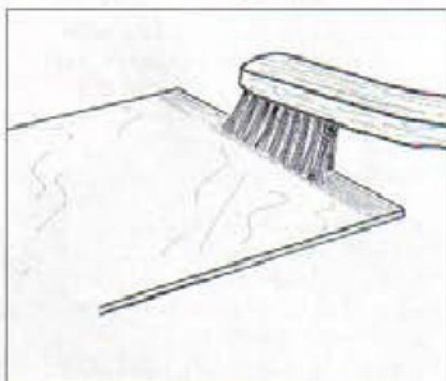

Fig. 1. Clean the area to be tinned with a stainless-steel wire brush.
Knurling tools for the lathe can be quite expensive to buy and are probably of a more sturdy structure than is required for model engineering, clock making and similar work. Here is an easily made gadget which will not break the bank and which has plenty of scope upon which improvise. The principle of its operation utilises the mechanical advantage of the lever. The general arrangement (Fig. 1) shows this to good effect. The knurling wheel is below the workpiece and the lever is pivoted on the fulcrum. By exerting a downward force upon the handle in the direction of the arrow, an upward force results upon the knurling wheel. Sufficient force can be applied to the handle to cause the knurling wheel to generate a pattern on the periphery of the work. The lever is a piece of whatever is handy, in this case a piece of 13mm square section mild steel. It is milled or sawn out at one end to accept a knurling wheel. This one accommodates a stock wheel obtainable from tool suppliers and is 5/8in. dia. x 3/16in. wide x 1/4in. bore. The best ones are the straight (or milled) pattern. Knurling wheels can, however, be home made from a suitable material such as silver steel. The lever should have a comfortable handle provided, as pressure is applied to it with the hand.
The M.E. entry generated much interest as an antique in mechanical engineering. The operation of glass engraving lathes before the turn of this century was usually by means of the foot operated treadle. **Fig. 1** is a typical example. The highest belt ratio available from the treadle would allow spindle speeds of up to perhaps 2000 r.p.m. and as when metal or wood turning, be very fatiguing to operate for long periods. The two soft pads near the front of the bench are for resting and forming a fulcrum for the elbows whilst holding the glass with the hands against the cutting wheel.
2. Burnish the areas to be soldered using a stainless wire brush. For most joints, a small brush is adequate (Fig. 1).
machine's 'Z' axis, while the latter provides full three axis capability. Figure 1 shows how the axes are defined and which are under numerical or manual control.